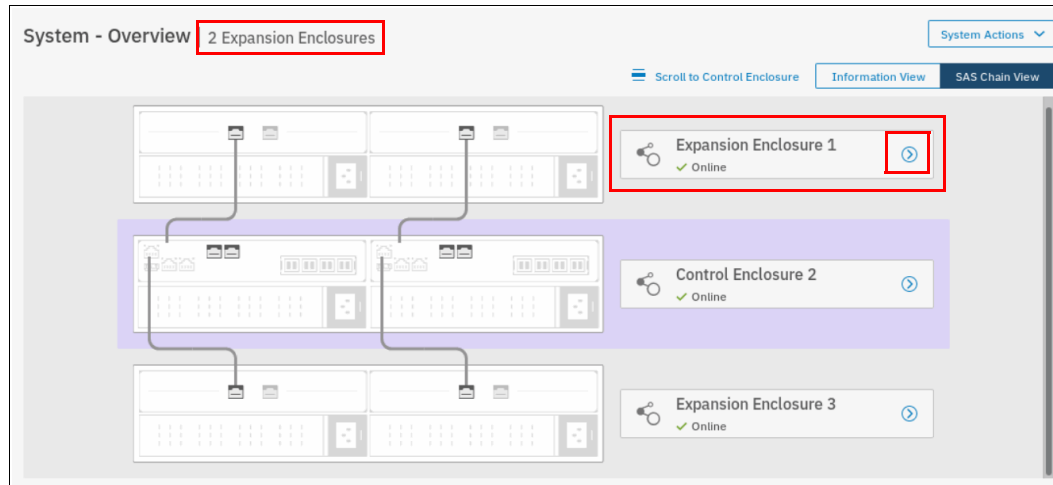

Figure 4-116 Enclosure successfully added
3. Select **Next** and then **Finish** after you are satisfied with your selections. The enclosures are then added to the system and appear as managed. Instead of the + button, you see a >, which allows you to view details about the enclosure because it is now part of the system, as shown in Figure 4-116.